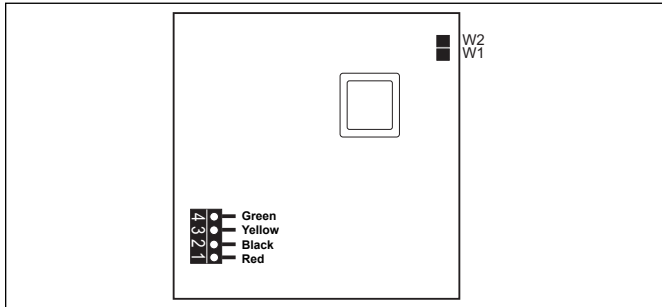

Figure 25. OneTouch PCB - Back View
- Wire the 4-conductor cable to the red, 4-pin terminal bar (see Figure 25). Push the 4-pin terminal bar onto the back of the OneTouch PCB. Place the PCB with LCD and buttons back into the box. Insert the screws and hand tighten. **Do not overtighten.** Snap the Faceplate into place.